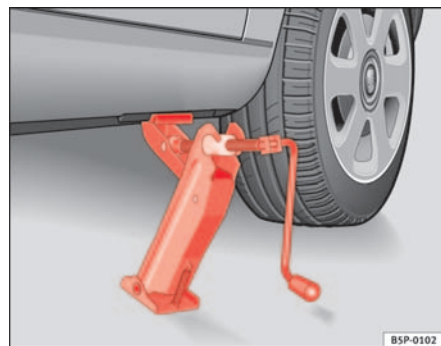

Fig. 174 Fitting the jack
- Align the jack so that the arm of the jack fits around the rib under the door sill and the movable base plate of the jack is flat on the ground ⇒ **fig. 174**.